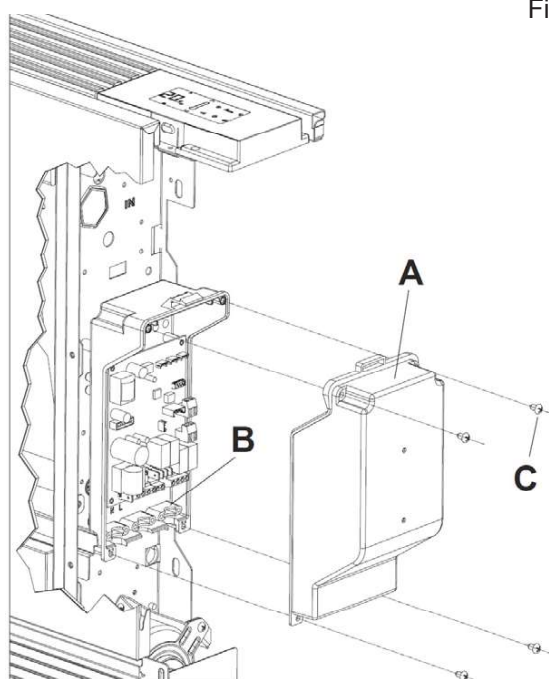

Fig.1
- close the box, fixing the 4 screws (Fig.1 ref. C);